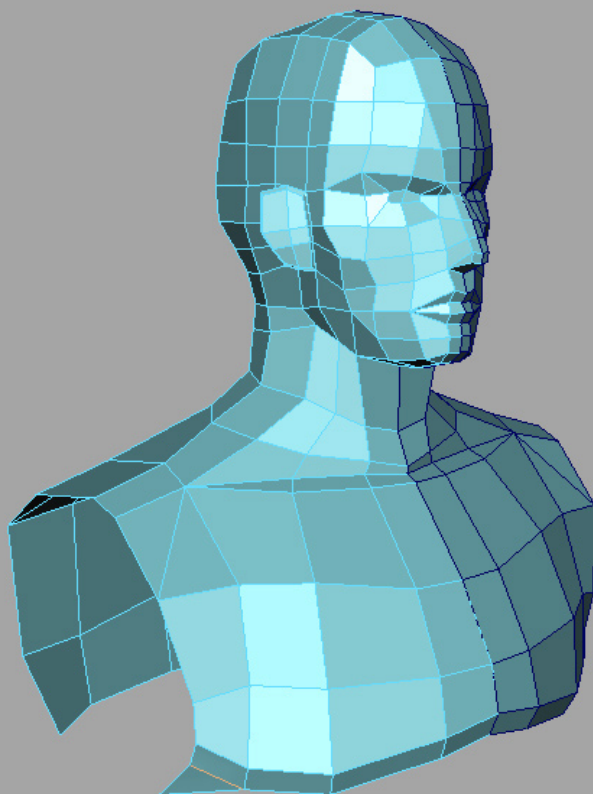

Fig 08
8. Getting back on the chest, select the lower edges again and extrude them once. Push them inside a little bit in order to form the lower part of the chest. Note that we've added one more edge on the corner in order to connect the arm later "Fig08".
8. Let's go back to the front chest. Extrude a new loop of edges, but this time also pull it inwards like shown in Fig08. Finally add a new cut (show in green in Fig08).